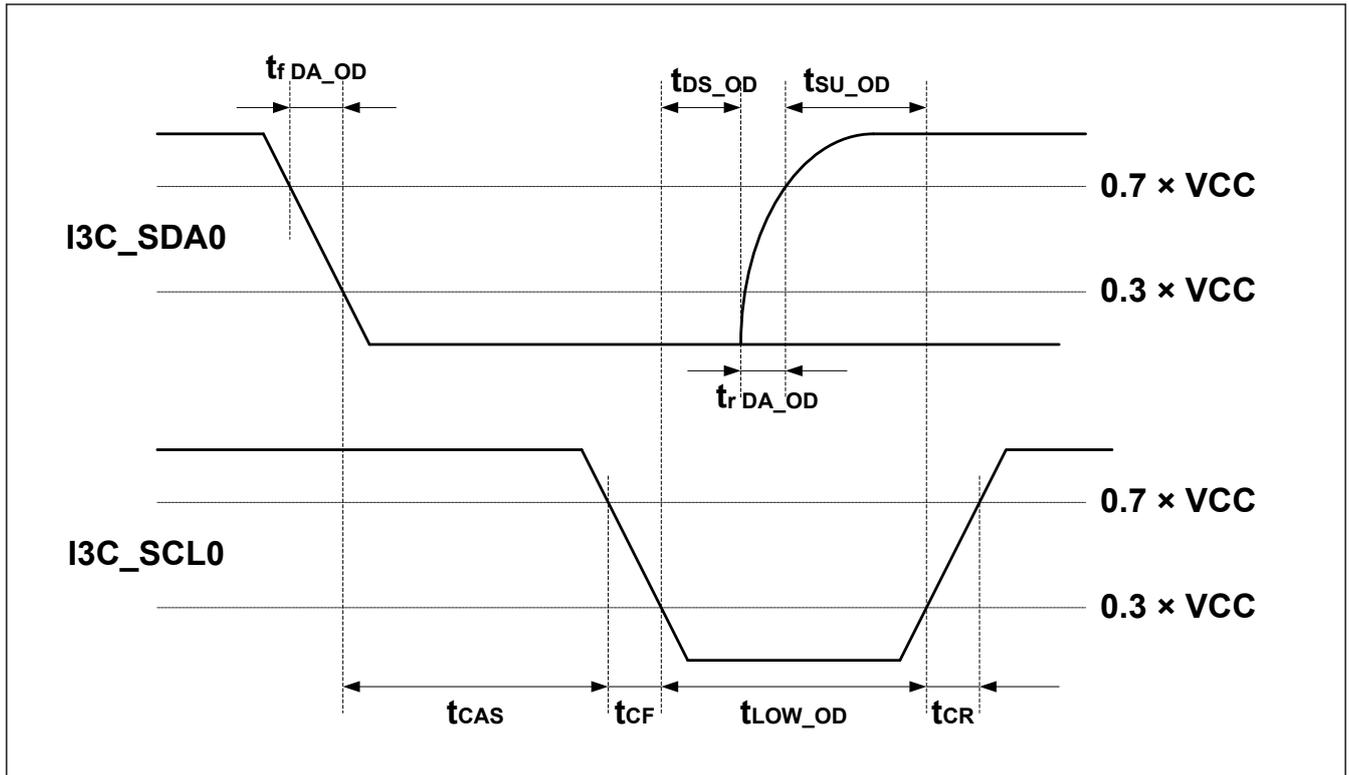

Figure 2.93 I3C START condition Timing
| I3C Open Drain Timing Parameters | SCL Clock Low Period | $t_{LOW_OD}^{*1 *2}$ | 3.00 V or above | 200 | — | ns | Figure 2.93 |
| | $t_{DIG_OD_L}$ | 3.00 V or above | $t_{LOW_ODmin} + t_{fDA_ODmin}$ | — | ns | Figure 2.93 | |
| | SDA Signal Fall Time | t_{fDA_OD} | 3.00 V or above | t_{CF} | 12 | ns | Figure 2.93 |
| | Clock After START (S) Condition | $t_{CAS}^{*5 *6}$ | 3.00 V or above | 38.4 nano | For ENAS0: 1 μ | seconds | Figure 2.93 |